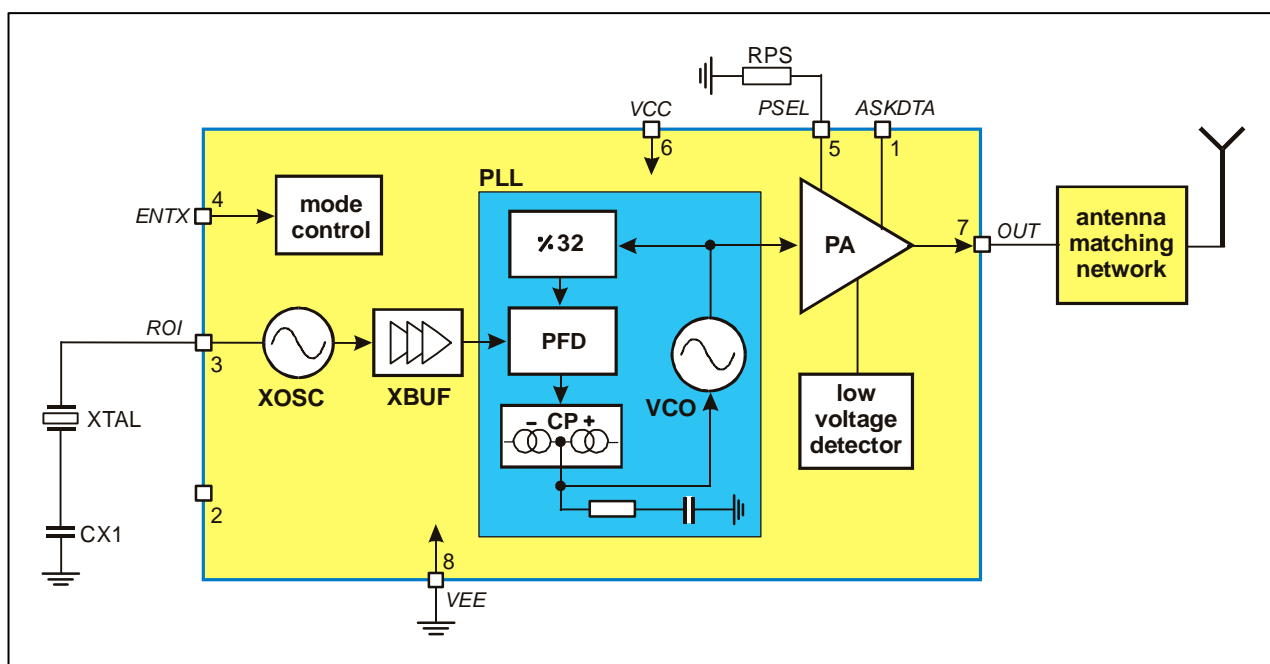

Fig. 1: Block diagram with external components
As depicted in Fig.1, the TH72002 transmitter consists of a fully integrated voltage-controlled oscillator (VCO), a divide-by-32 divider (div32), a phase-frequency detector (PFD) and a charge pump (CP). An internal loop filter determines the dynamic behavior of the PLL and suppresses reference spurious signals. A Colpitts crystal oscillator (XOSC) is used as the reference oscillator of a phase-locked loop (PLL) synthesizer. The VCO's output signal feeds the power amplifier (PA). The RF signal power P_{out} can be adjusted in four steps from $P_{out} = -12$ dBm to +11 dBm, either by changing the value of resistor RPS or by varying the voltage V_{PS} at pin PSEL. The open-collector output (OUT) can be used either to directly drive a loop antenna or to be matched to a 50Ohm load. Bandgap biasing ensures stable operation of the IC at a power supply range of 1.95 V to 5.5 V.